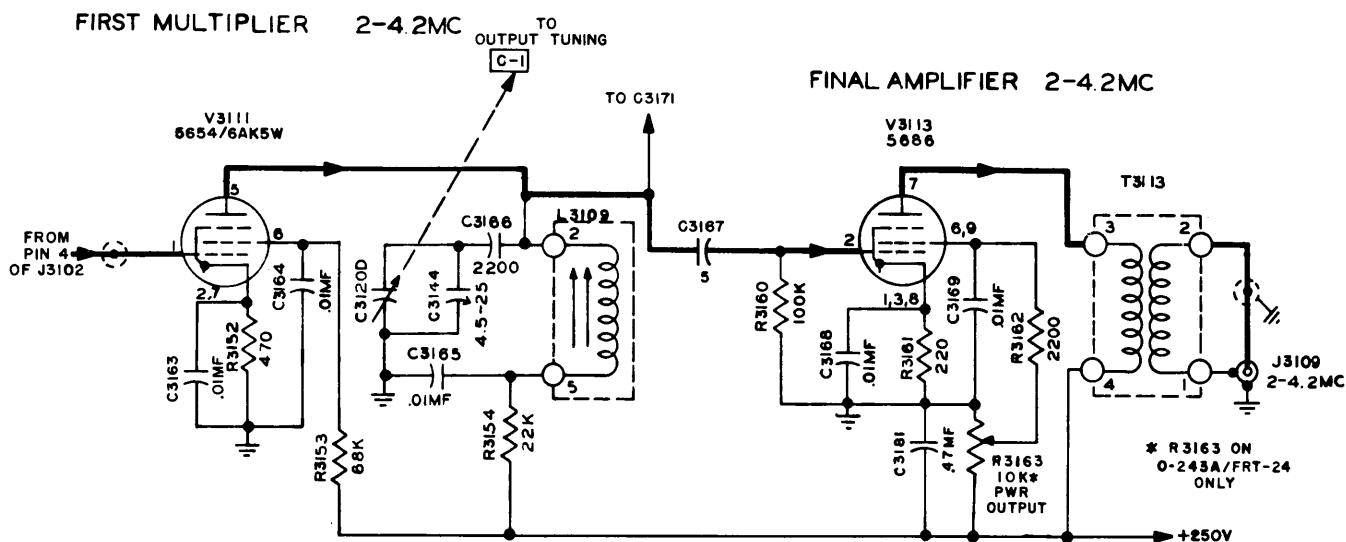

Figure 2-37. First Multiplier and Final Amplifier, Simplified Schematic
(2) FIRST MULTIPLIER V3111 (see figure 2-37).—The first multiplier stage (V3111) employs a JAN 5654/6AK5W miniature pentode using cathode bias, and operating as either a frequency doubler or frequency tripler. The plate circuit of V3111 consists of a tuned circuit which is composed of slug-tuned inductor L3109, trimmer capacitor C3144, and one section of variable ganged capacitor C3120D. Capacitor C3166 is employed to block d-c plate voltage from the tuning gang, but its value is made sufficiently large so that tuning is not affected. The plate tank circuit may be tuned to twice the input frequency to produce an output frequency of 2 to 3 mc, or it may be tuned to three times the input frequency to produce an output frequency of 3 to 4.2 mc. Tuning is accomplished by OUTPUT TUNING dial C-1 (C3120D). The output of V3111 is capacitively coupled through C3171 to the second multiplier grid, and through C3167 to the final-amplifier grid.
(3) FINAL AMPLIFIER (see figure 2-37).—The final-amplifier stage (V3113) utilizes a